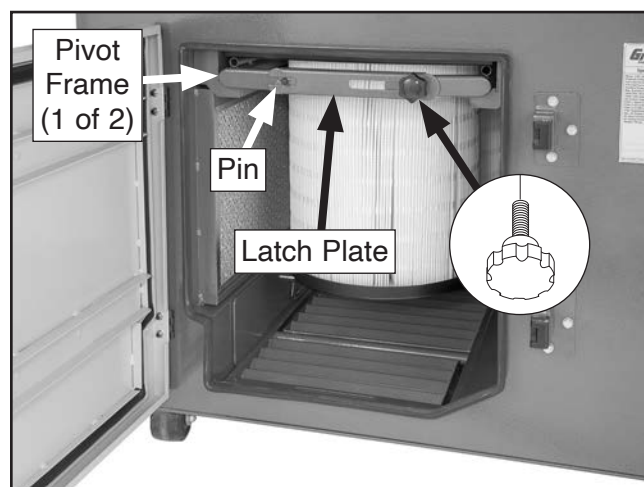

Figure 49. Canister filters secured in machine.
11. Install canister filters in machine, then rotate pivot frames up and slide latch plate left until it engages pin (see **Figure 49**).
12. Tighten knob shown in **Figure 49** to secure.